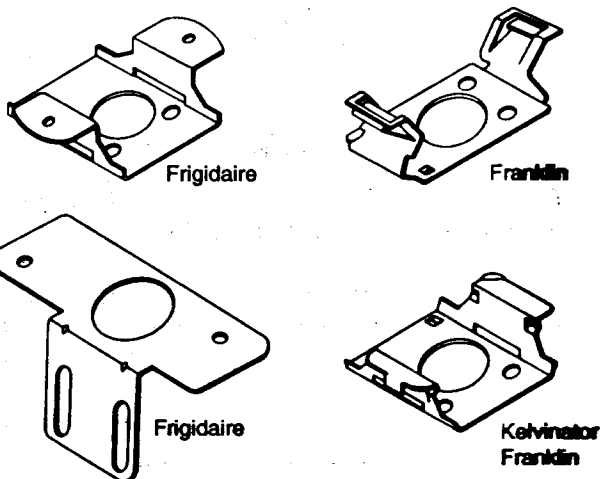

Figure 4
1. Select required mounting bracket that matches the original. Figure 4.